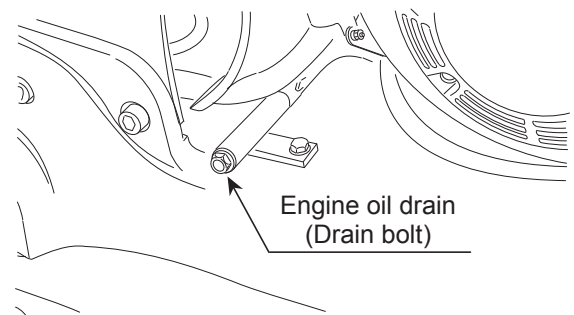

Figure 24. Draining Engine Oil
1. Remove the oil drain bolt (Figure 24), and sealing washer and allow the oil to drain into a suitable container.